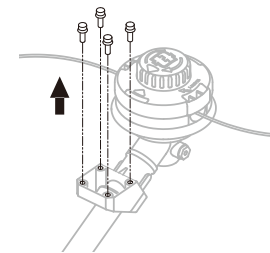

Fig. 2A
1. Unscrew and remove the four bolts and washers from the base of the shaft (Fig. 2A).
2. Lift the trimmer head and face it upward. Align the four mounting holes in the guard with the four assembly holes at the base of the shaft. Make sure that the internal surface of the guard faces toward the trimmer head. (Fig. 2A)